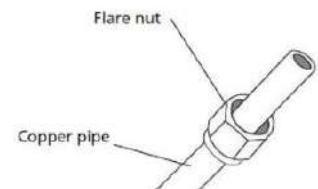

Fig. 5.3
3. Place flare nuts on both ends of tubing. Make sure they are facing in the right direction, because they cannot be put on or have their direction changed after flaring. See Fig. 5.3.